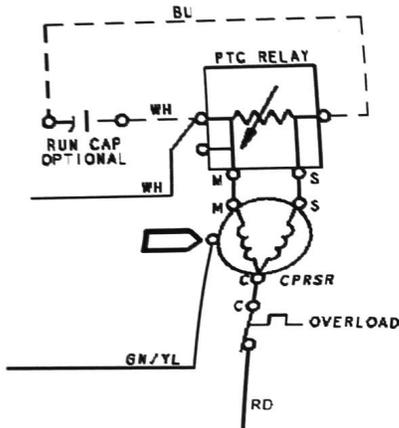

FIGURE 3
- Blue to the capacitor, if your model uses a capacitor. If your model does not have a capacitor use the terminal cover provided in the kit to cover the bare terminal. (See Figure 2 and Figure 3.)